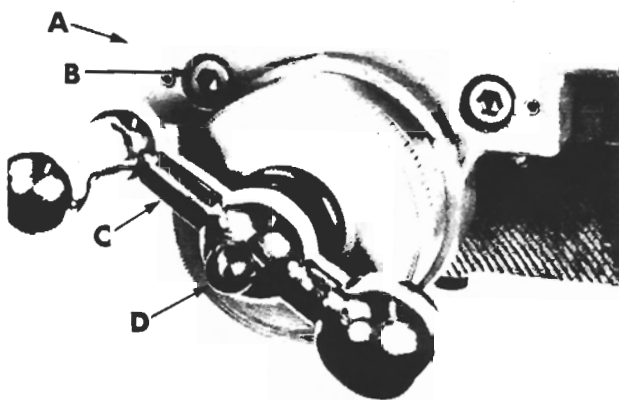

Figure 47
9. Remove acorn nut (D, fig. 47), crank (C), dial, bushing and key from left end of lead screw.
10. Remove two screws (B) holding dial housing (A) and pry dial housing off roll pins.